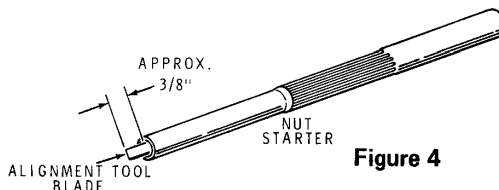

Figure 4
- Refer to Figure 4 and insert all except approximately 3/8" of the alignment tool blade into the small end of the nut starter.